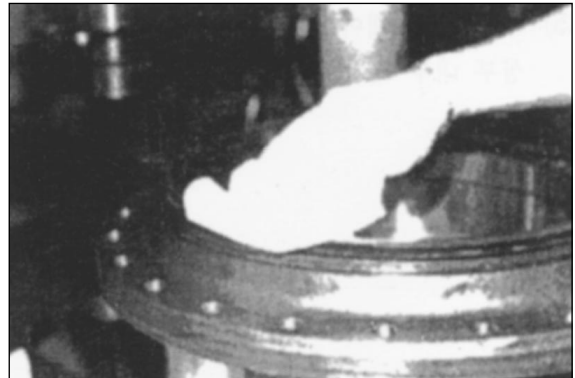

Figure 94
3. Clean seal surface. Figure 94.